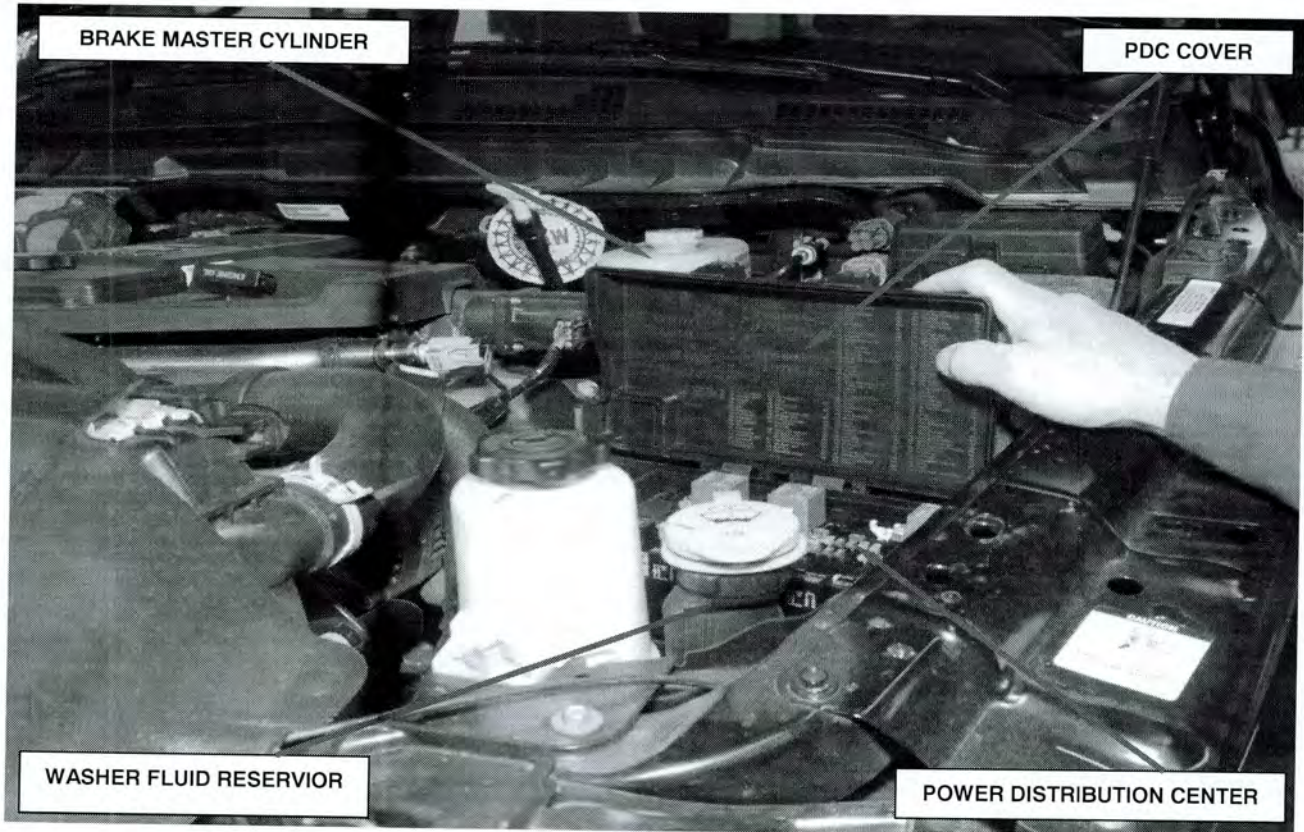

Figure 1 – Power Distribution Center Location
1. Open the hood of the vehicle and locate the Power Distribution Center (PDC) on the drivers' side of the engine compartment, just forward of the battery (Figure 1).
2. Open the PDC cover (Figure 1).